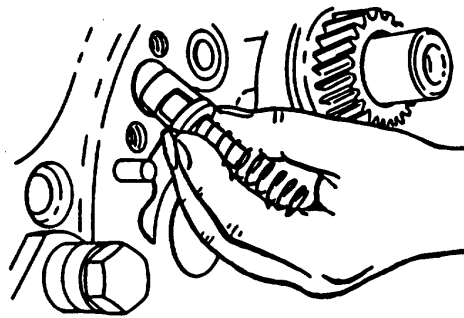

**FIGURE 3-38. Oil Pressure Test Setup**
- a. Attach pressure gage at pressure port shown on FIGURE 3-38.